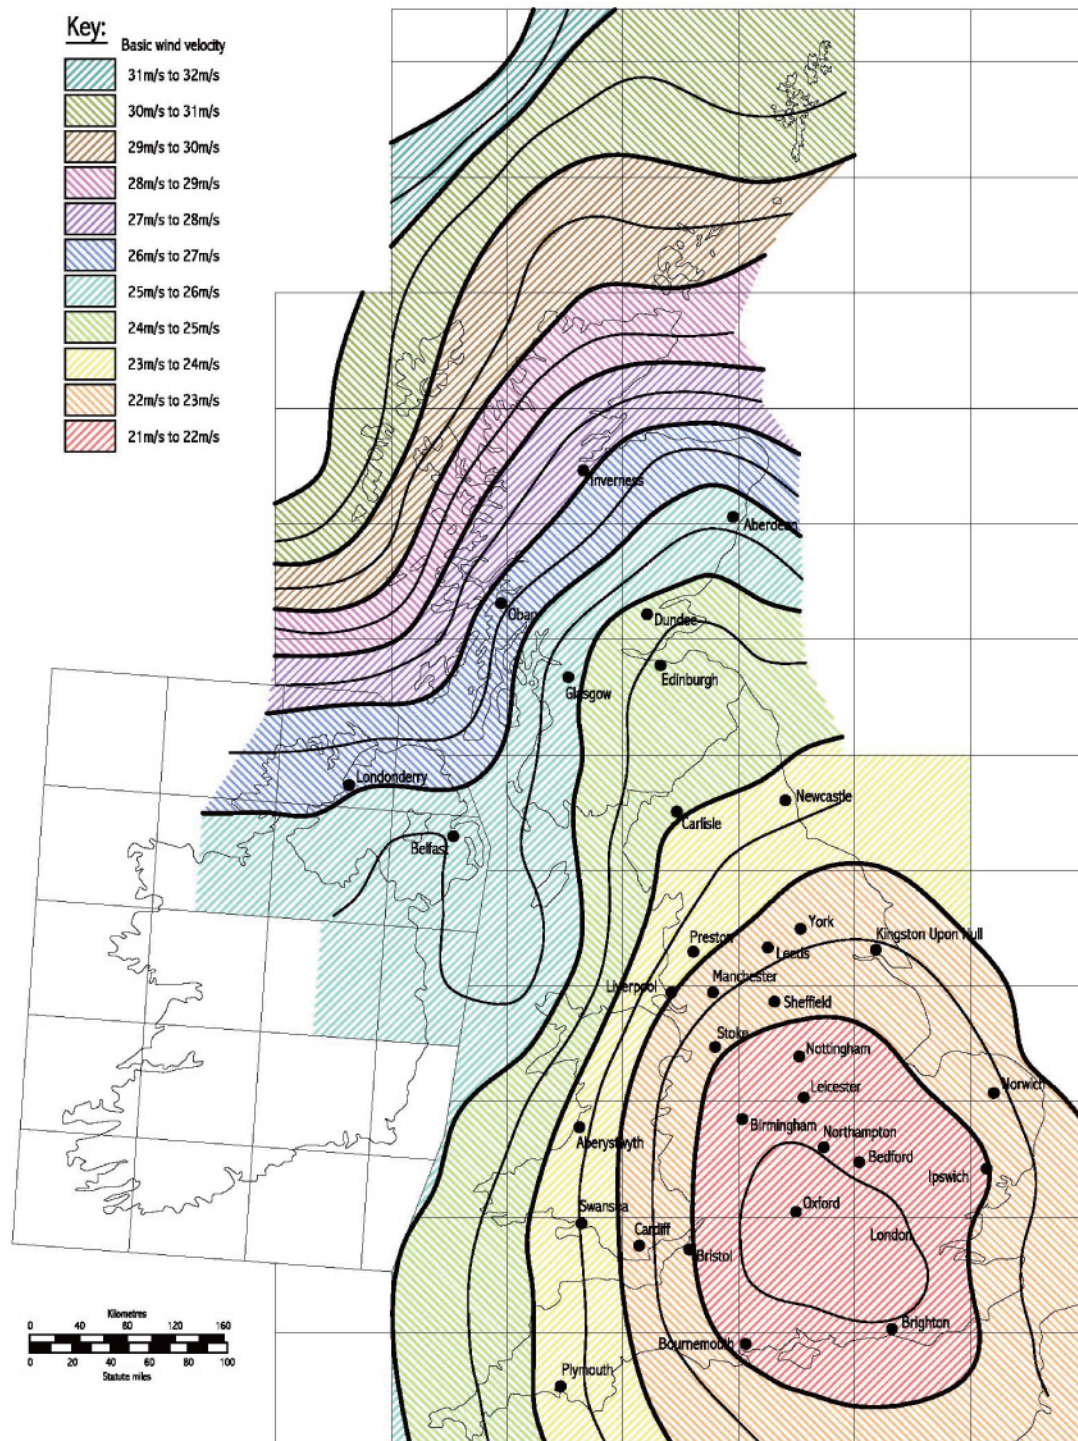

Fig 1. Value of fundamental basic wind velocity map, $v_{b, map}$
- Basic wind velocity, (see Fig 1)
3.5.1 The wind map below (Fig 1) shows the “fundamental values of basic wind velocity” in m/sec before an altitude correction factor, directional factor, seasonal factor and probability factor has been applied.